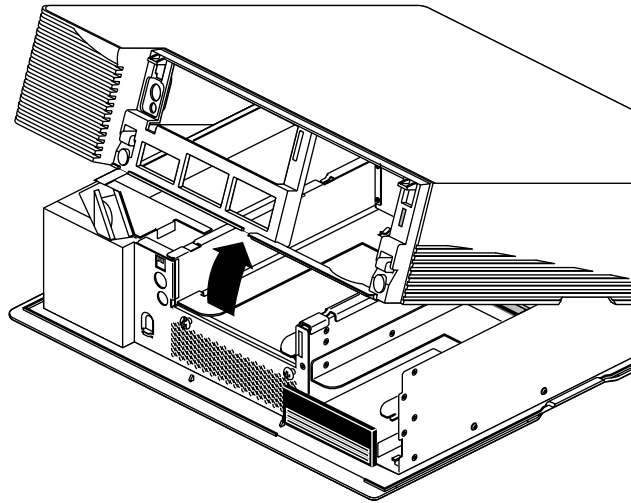

Figure 1-6 Removing the Top Cover
- Pull up on the cover and rotate it back and away from the chassis, as shown in Figure 1-6.